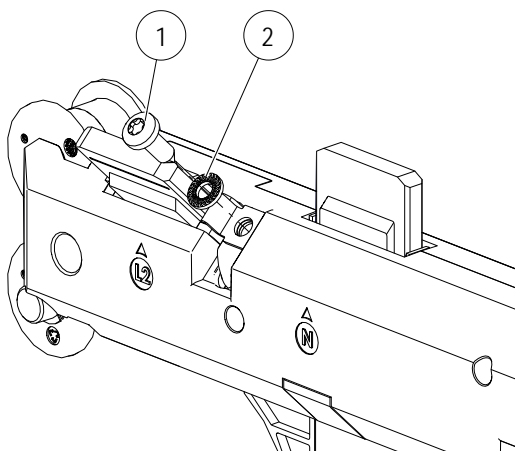

Fig. 108: Loosen the screw (Pos. 1) and the washer (Pos. 2)
- Loosen the screw (Pos. 1) with a screwdriver. Remove the screw (Pos. 1) and the washer (Pos. 2) (see Fig. 108).